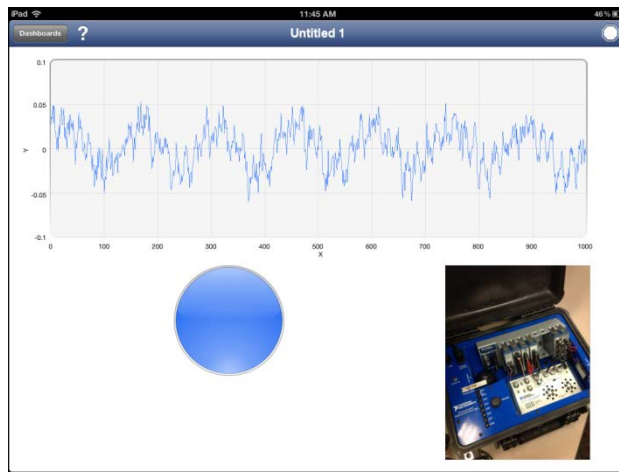

Figure 27. When the fan is oscillating at a high RPM, the signal exhibits a noticeable pattern and the Alert LED is turned on.
72. Notice that while the fan is oscillating at low speeds, the Alert LED is off. When the fan is oscillating at high speeds, the calculated RMS Value exceeds the set threshold (0.015) and turns the Alert LED on, as shown in Figure 27.